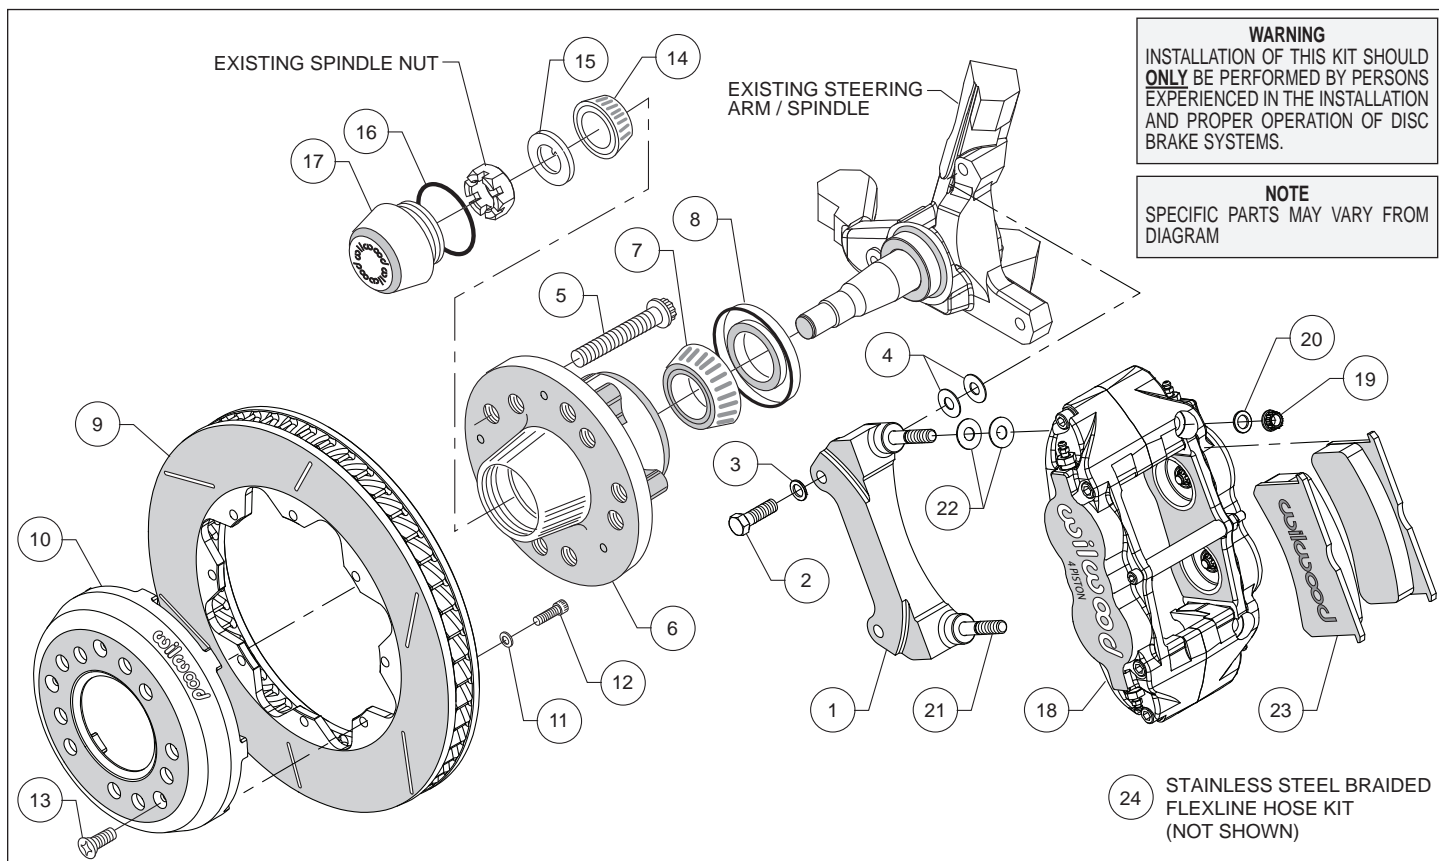
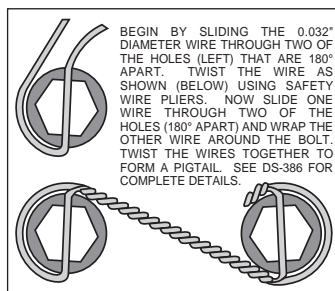

Figure 2. Typical Installation Configuration
Figure 4. Safety Wire Diagram
Assembly Instructions (numbers in parenthesis refer to the parts list and Figure 2 on the preceding page):
- The caliper mount bracket (1) should initially be installed with clean, dry threads on the mounting bolts. Orient the bracket as shown in Figure 2 and Photo 1, and install using bolts (2) and washers (3). Initially place two .035" thick shims (4) on each bolt between the bracket and upright, Figure 2. Temporarily tighten the mounting bolts. **NOTE:** The bracket must fit squarely against the mounting points on the spindle. Inspect for interference from casting irregularities, machining ridges, burrs, etc. Later, after the caliper alignment has been checked, the mount bolts will be secured using red Loctite® 271.
- Orient the rotor (9) and the hat (10) as shown in Figure 2 and Photo 4. Attach rotor to hat using bolts (12) and washers (11). Using an alternating sequence, apply red *Loctite*® 271 to the threads, and torque to 25 ft-lbs. For an added measure of security, the bolts may be safety wired using standard 0.032 inch diameter stainless steel safety wire as shown in Figure 4. Refer to Wilwood's data sheet DS-386 (available at www.wilwood.com/Pdf/DataSheets/ds386.pdf) for complete safety wire installation instructions.
- NOTE:** This kit contains distinct right and left hand calipers that must be mounted in a specific direction, as described below. Lubricate the caliper mounting studs (21) with lightweight oil. Initially place two .035" thick shims (22) on each stud between the caliper and the bracket, as shown in Figure 2 and Photo 7. With the bleed screws pointing up, mount the caliper (18) onto the bracket (1) using lock nuts (19) and washers (20), Figure 2. Ensure that the caliper is mounted so the largest pistons are at the rotor exit end of the caliper, in relation to the direction of rotor rotation. Temporarily tighten the lock nuts and view the rotor through the top opening of the caliper. The rotor should be centered in the caliper, Photo 8. If not, adjust by adding or subtracting shims (4) between the bracket and the spindle. Always use the same amount of shims on each of the two mounting bolts. Once the caliper alignment is correct, remove the bracket mounting bolts one at a time, apply red *Loctite*® 271 to the threads, and torque to 40 ft-lb.